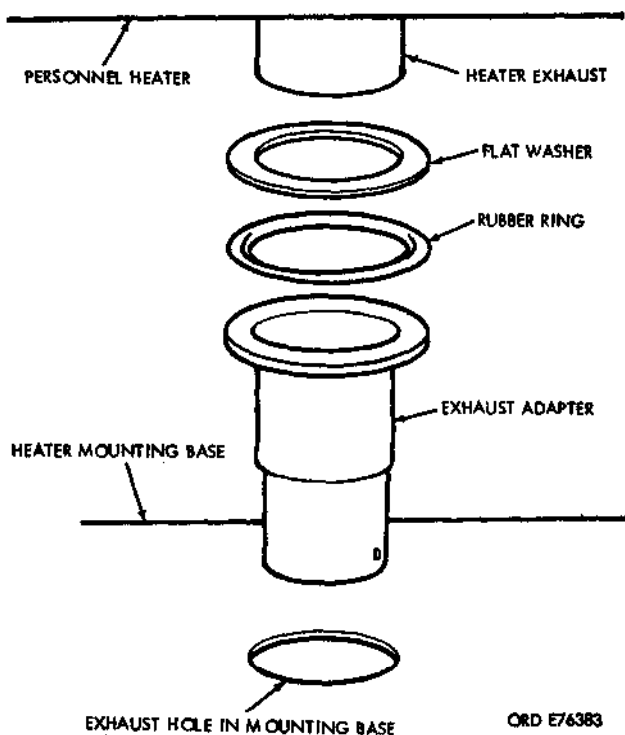

Figure 681. Heater exhaust adapter installation.
tension 7700245 to exhaust pipe on heater, and place heater on mounting base, passing extension through exhaust hole in base (Fig. 681).
- (3) Attach adapter 7524078 to heater as indicated in figure 681, using four screws MS 96906-35206-242 and washers MS 96906-35335-17.